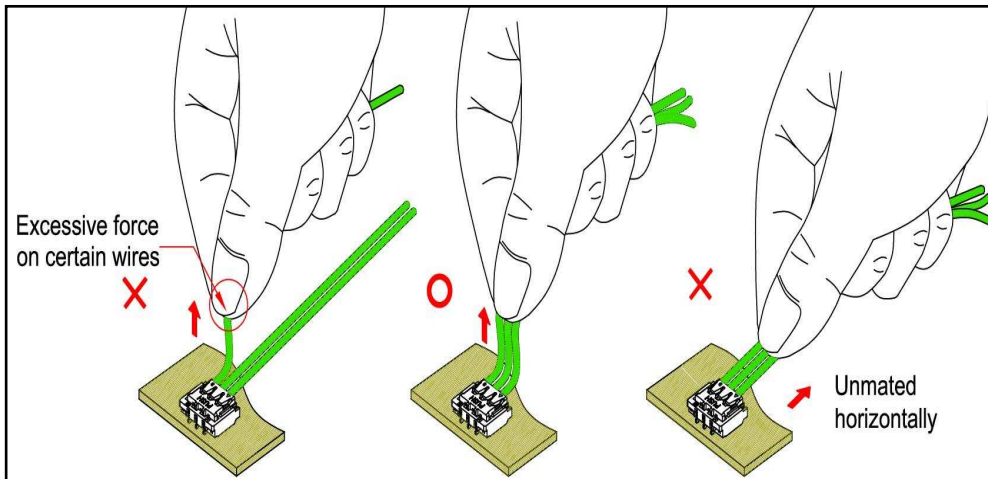

figure 4.1
4.1 Please hold all wires equally to prevent excessive force on certain wires. excessive force on certain wires or unmated horizontally could lead to damage. (see figure 4.1)